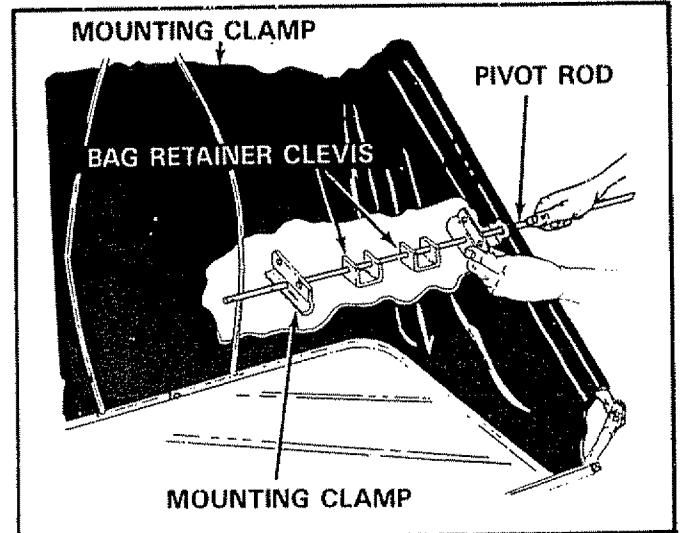

FIGURE 20
12. Slide pivot rod through hole in side of upper hopper tube that you just pierced in step 11. Slide one mounting clamp, two bag retainer clevises, and one more mounting clamp onto rod before rod is pushed into other hole on opposite side of bag. See figure 20.